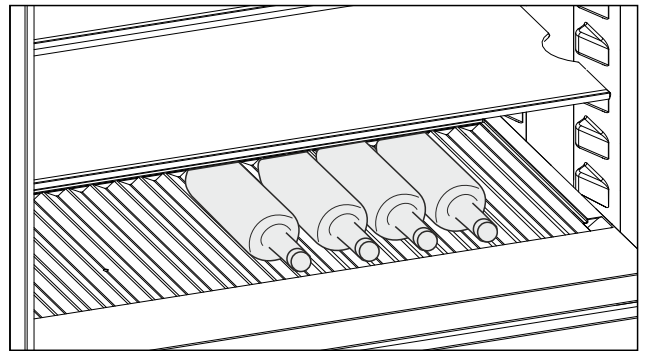

Fig. 255 Example illustration
- Place bottles in the back row with their bases against the back wall. (see Fig. 255)